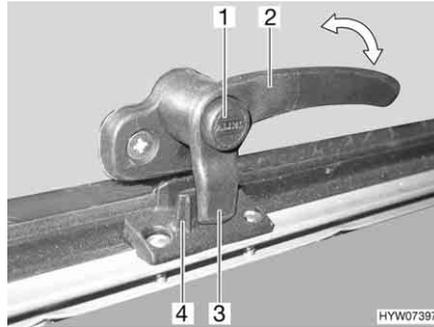
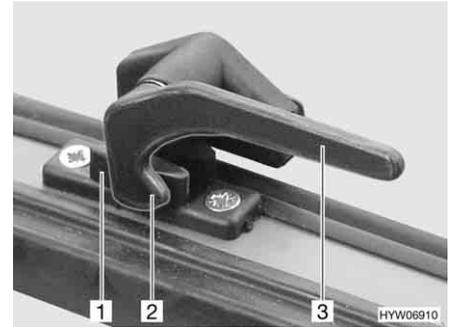

Fig. 97 Catch lever with safety knob in "closed" position
Fig. 98 Catch lever in "closed" position
- Press and hold the security button (Fig. 97,1), if present.
- Turn the catch lever (Fig. 97,2 or Fig. 98,3) a quarter turn towards the centre of the window.
- Turn the catch lever (Fig. 97,2 or Fig. 98,3) a quarter turn towards the window frame. The locking catch (Fig. 97,3 or Fig. 98,2) on the catch lever is entirely on the inner side of the window catch (Fig. 97,4 or Fig. 98,1).
- Firmly closed (Fig. 97 and Fig. 98)